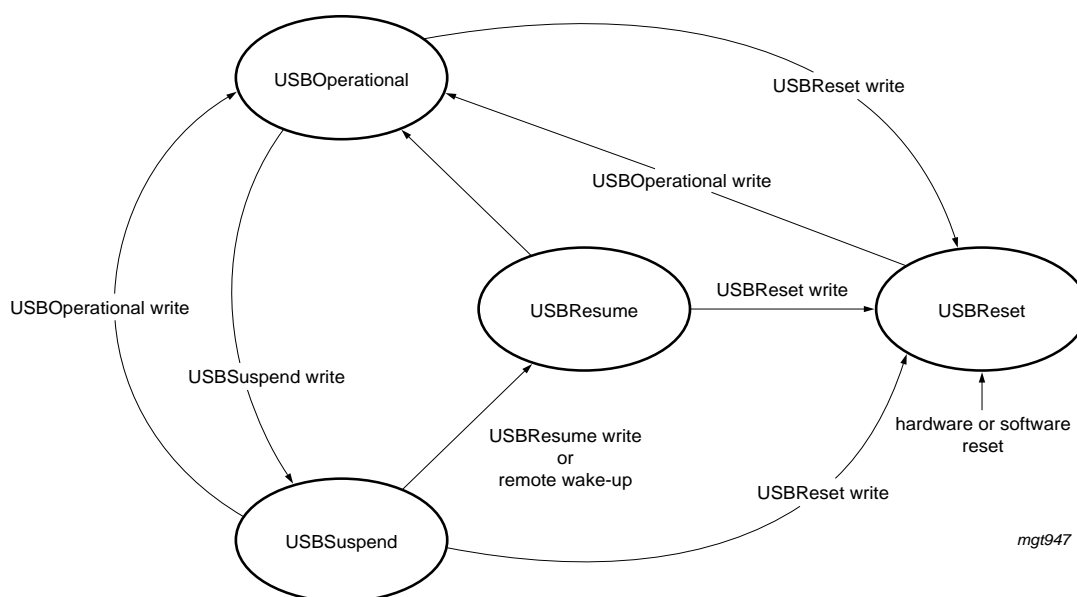

Fig 14. The ISP1160/01 HC's USB states.
The HCD can perform only the USB state transitions shown in Figure 14.
**Remark:** The Software Reset in Figure 14 is not caused by the HcSoftwareReset command. It is caused by the HostControllerReset field of the HcCommandStatus register (02H to read, 82H to write).